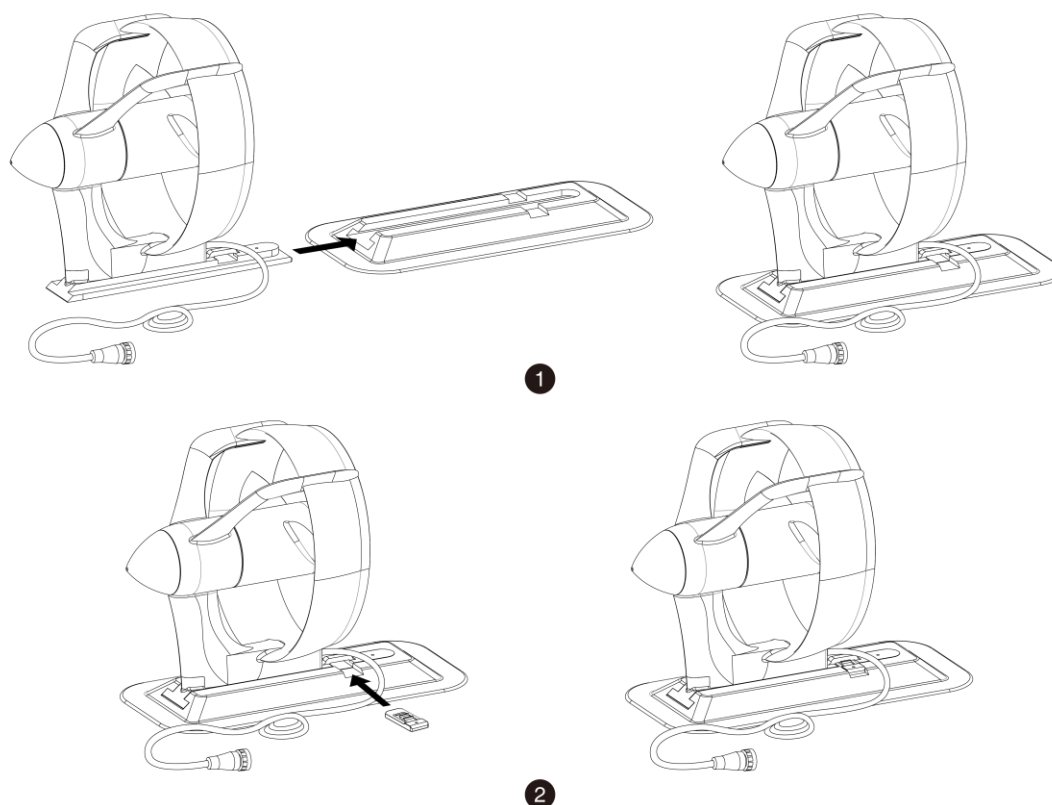

Figure 3-4 Fit into inflatable SUP fin box
Step2: Insert the retaining chip into the place indicated in Figure 3-4 to fix the adapter.